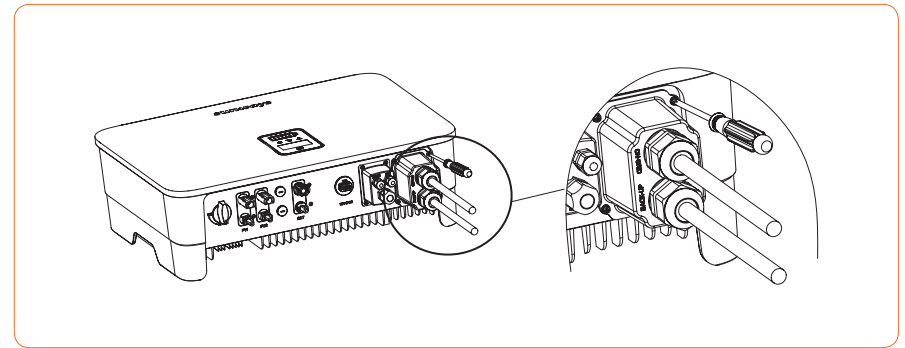

Figure 4-32
⑥ Lock the AC connector cover to the inverter with screws, as shown in Figure 4-32: